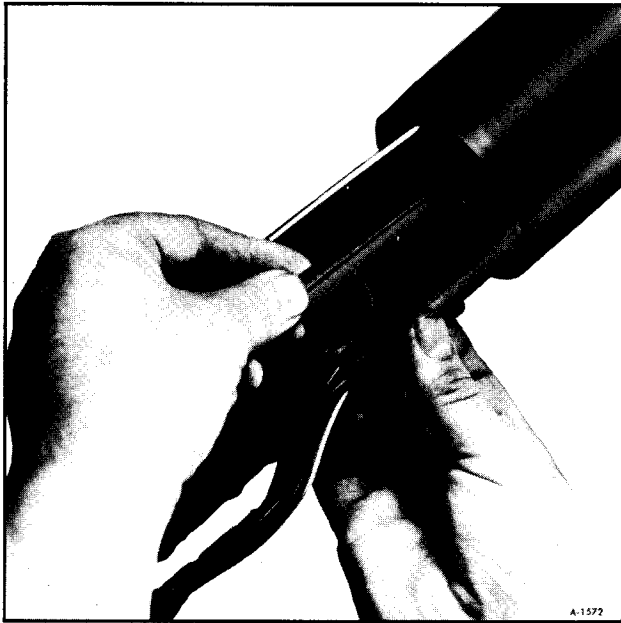

Figure 78—Removing Wire Protector
5. Remove signal switch wire protector. **DO NOT DAMAGE WIRES.** (figure 78). Wrap a piece of tape around the upper connector and wires to prevent snagging when removing the switch. (figure 79)
31. Install lower wire protector over wires and on jacket (figure 78).